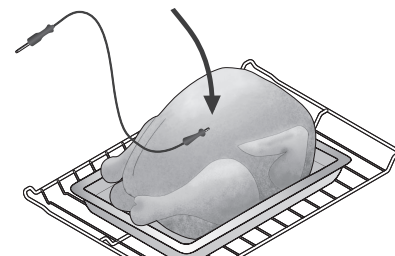

Figure 19: Probe in thickest part of breast
- For whole poultry or turkey, fully insert the probe sensor into the thickest part of the breast (See Figure 19).